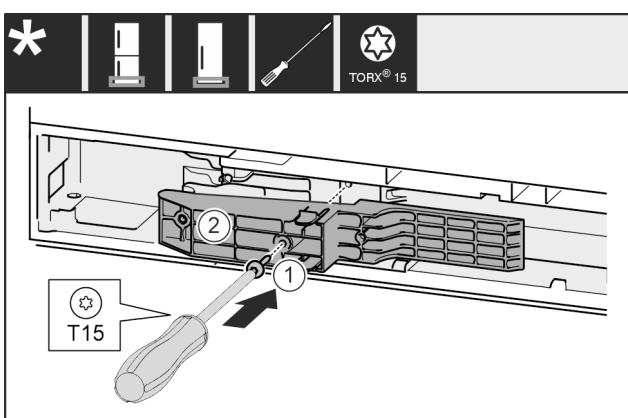

Fig. 48 \*
- ▶ 将把手侧的适配件 Fig. 48 (1)插入凹槽。\*
- ▶ 将螺钉 Fig. 48 (2)用螺丝刀拧紧。\*